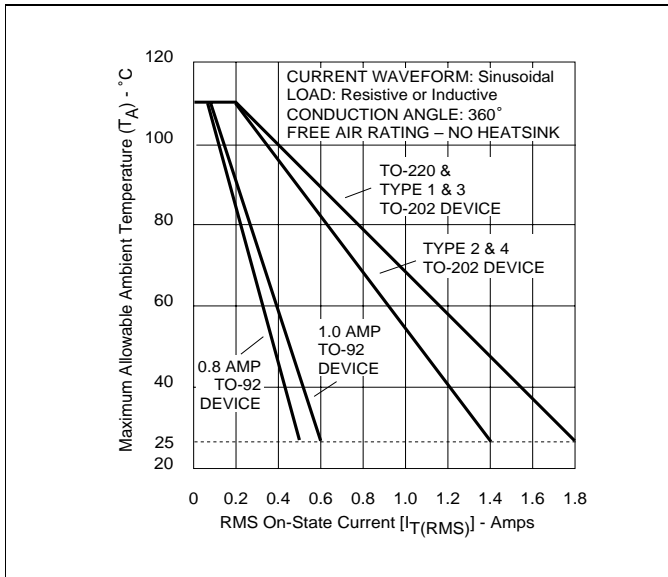

Figure 1.1 Maximum Allowable Ambient Temperature vs On-State Current
- See Figures 1.1, 1.2, and 1.3 for  $T_A$  or  $T_C$  vs  $I_T$ (RMS).